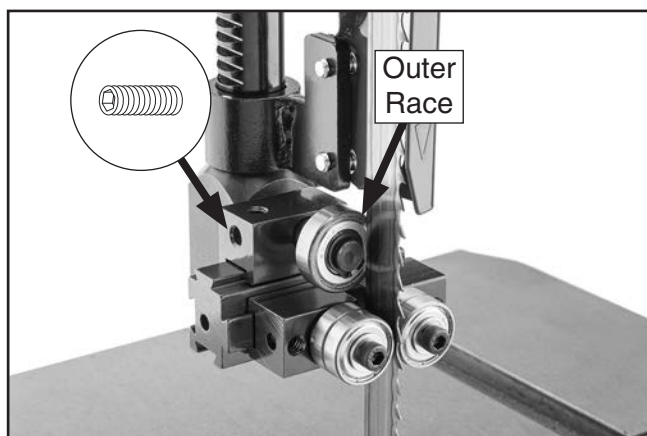

Figure 9. Support bearing set in correct lateral position.
10. Loosen set screw shown in **Figure 9**.
11. Slide support bearing block until outer race extends past blade (see **Figure 9**).
12. Hold support bearing block in position and tighten set screw shown in **Figure 9**.